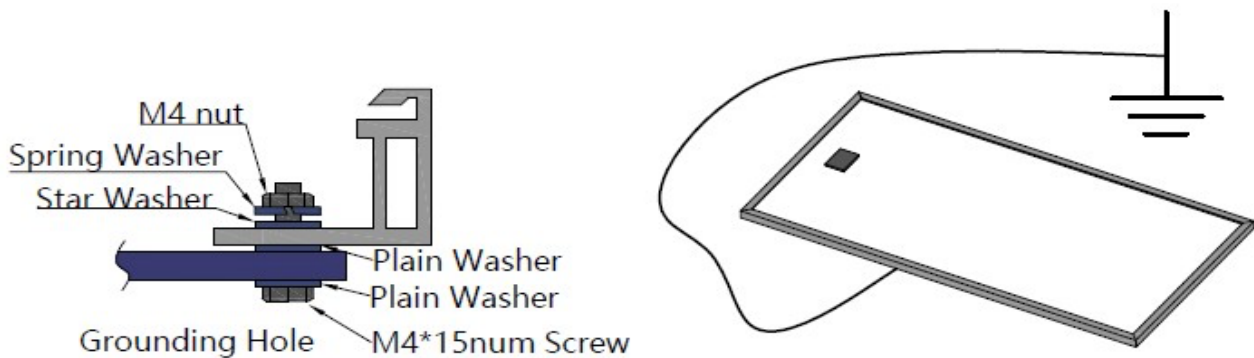

Figure 4 : The graph of Grounding
- e) Module with frame must be properly grounded in accordance with local and national electrical codes. Mounting racks must be properly grounded in accordance with local and national electrical codes too. Module without frame do not need grounding because there will be no leakage current between cell and encapsulation material due to non-frame structure. Attach the equipment grounding conductor to the module frame using the provided hole and hardware. Note that a stainless-steel star washer is used between the ground wire and module frame (see Figure 4 below). This washer is used to avoid corrosion due to dissimilar metals. Tighten the screw securely.